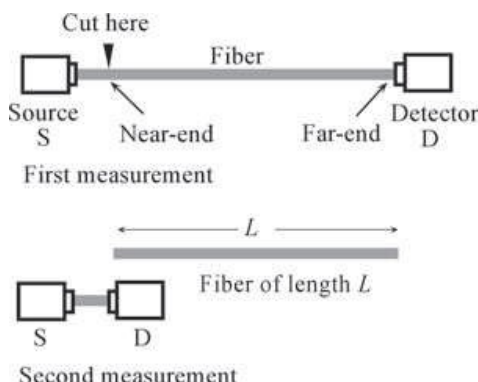

FIGURE 2.54 Illustration of the cut-back method for measuring the fiber attenuation. S is an optical source and D is a photodetector.
2.32 Cut-back method of attenuation measurement Cut-back method is a destructive measurement technique for determining the attenuation α of a fiber. The first part of the experiment involves measuring the optical power P_{far} coming out from the fiber at the far end as shown in Figure 2.54. Then, in the second part, keeping everything the same, the fiber is cut close to the launch or the source end. The output power P_{near} is measured at the near end from the shortcut fiber. The attenuation is then given by